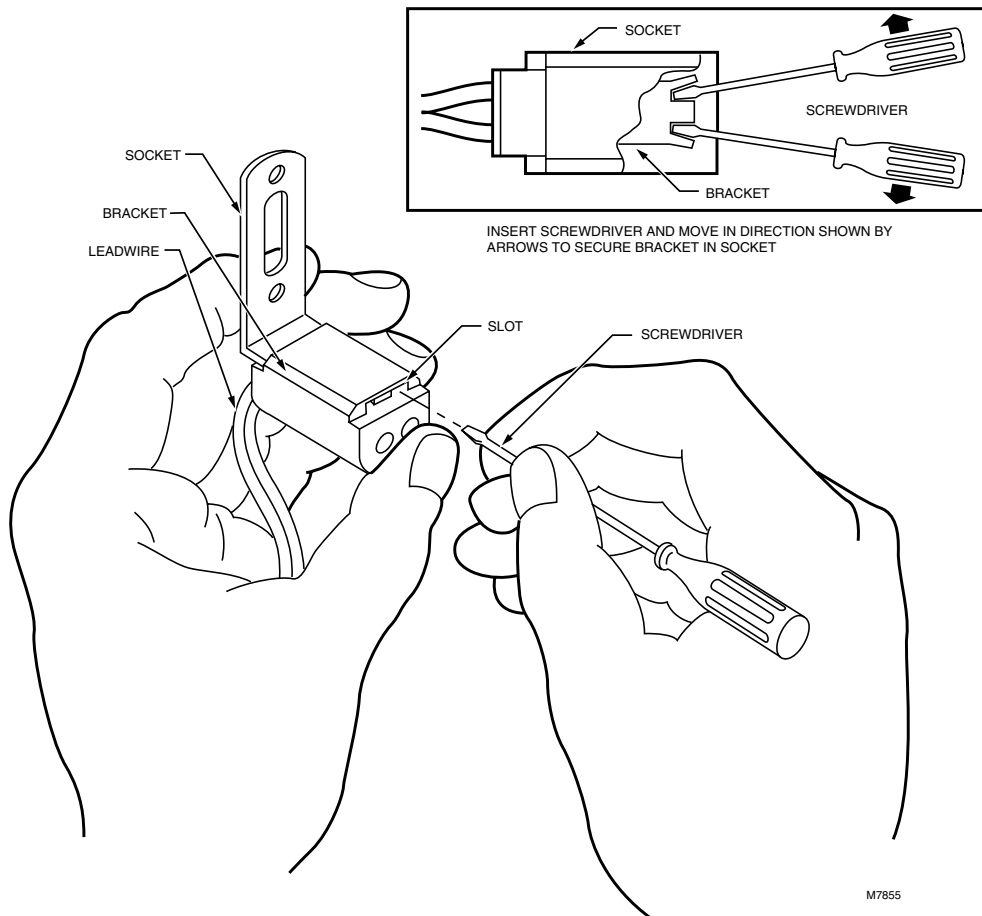

Fig. 4. Insert screwdriver to secure bracket in socket.
- ❶ Remove the cell from the socket.
- ❷ Insert the mounting bracket into the slot on the socket (Fig. 4) as far as it will go.
- 3 While holding the mounting bracket in the slot, insert the screwdriver in the other end of the slot (Fig. 4). Bend the screwdriver, first to the left and then to the right, to crimp the end of the mounting bracket and hold it in position.